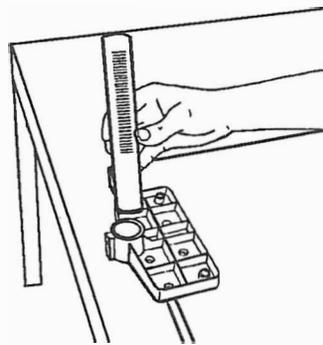

Fig. A-19
**17.** Insert a table post (35) in each table support's post holes, as shown in Fig. A-19. Orient the flat side with the teeth toward you, as in Fig. A-19.